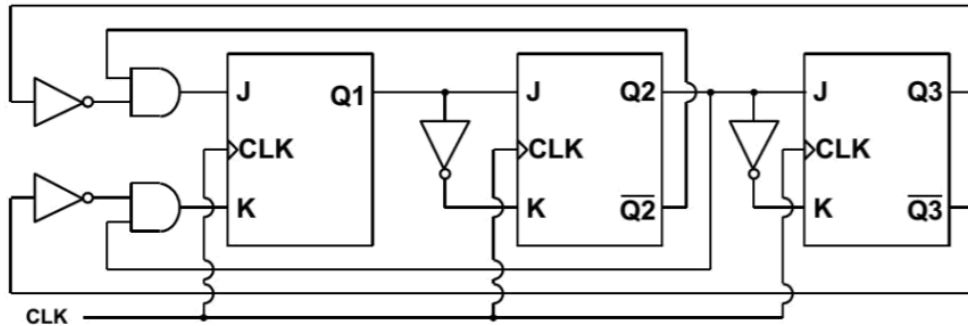

Figure 1: Schematic for preliminary work Q1.
1. Figure 1 shows a circuit constructed with elementary gates and JK flip-flops, in which all of the flip-flops are positive edge triggered. Write down the present states of $Q_{1,n}$, $Q_{2,n}$, and $Q_{3,n}$ in terms of the previous states $Q_{1,n-1}$, $Q_{2,n-1}$, $Q_{3,n-1}$. Prepare a table showing the state of the circuit after each clock pulse, starting from the state (1, 1, 1).
1. Implement the circuit in Figure 1 on Quartus. Make a functional simulation to find the state of the circuit after each clock pulse, starting from the state (1, 1, 1). **Note:** Initial state of the flip flops is 0 on Quartus. To initialize the state to (1, 1, 1), you could add a Preset pin to the circuit, which is connected to the PRN inputs of the FFs, and send a LOW pulse on this pin before the clock signal starts.